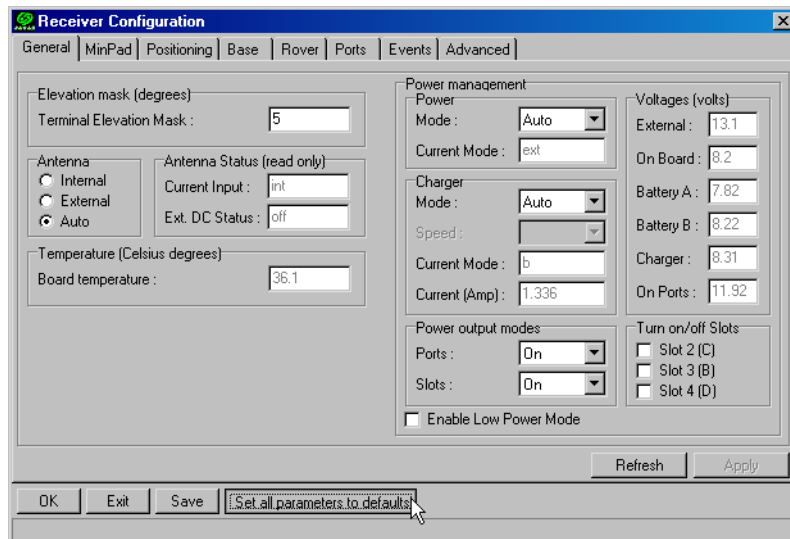

Figure 3-9. Set All Parameters to Defaults
7. Click the **Set all parameters to defaults** button located at the bottom of the Receiver Configuration screen (Figure 3-9).